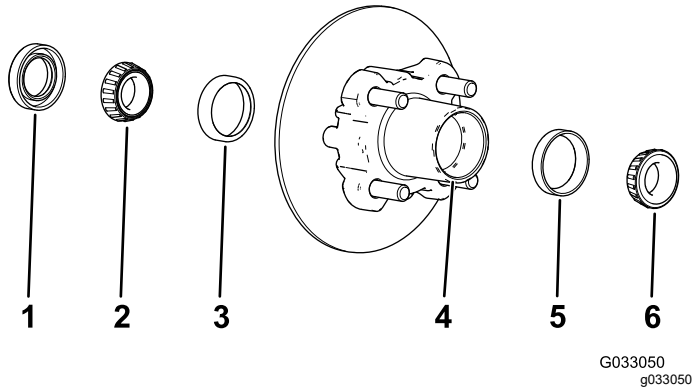

Figure 38
1. Remove the outboard bearing and bearing race from the hub (Figure 38).
2. Remove the seal, inboard bearing from the hub (Figure 38).
5. Clean the cavity of the hub of all grease, dirt, and debris (Figure 38).
7. Fill the cavity of hub 50 to 80% full of the specified grease (Figure 38).
8. Assemble the inboard bearing onto the race at the inboard side of the hub and install the seal (Figure 38).